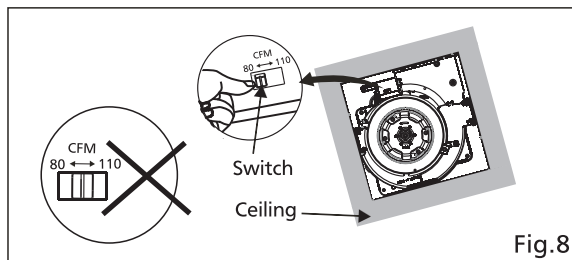

Fig.8
10. Select the air volume speed by adjusting the switch. Factory setting is "80" position; sliding "110" is high airflow position. (Fig.8)
Make sure the switch is not set at the middle position; otherwise the fan will not function. (Fig.8)